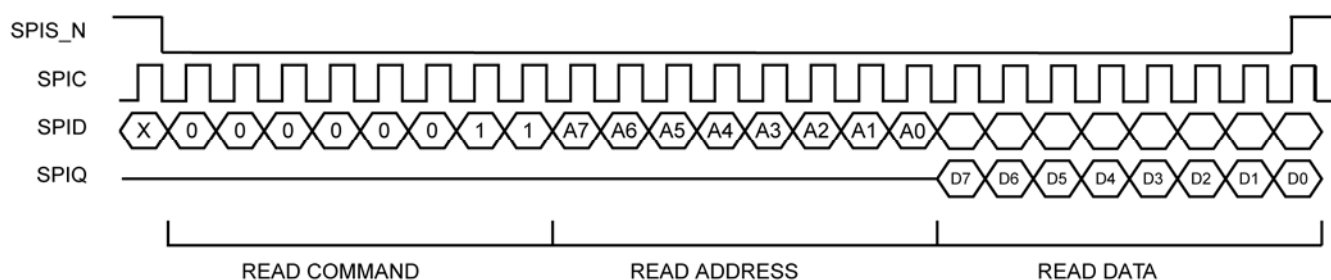
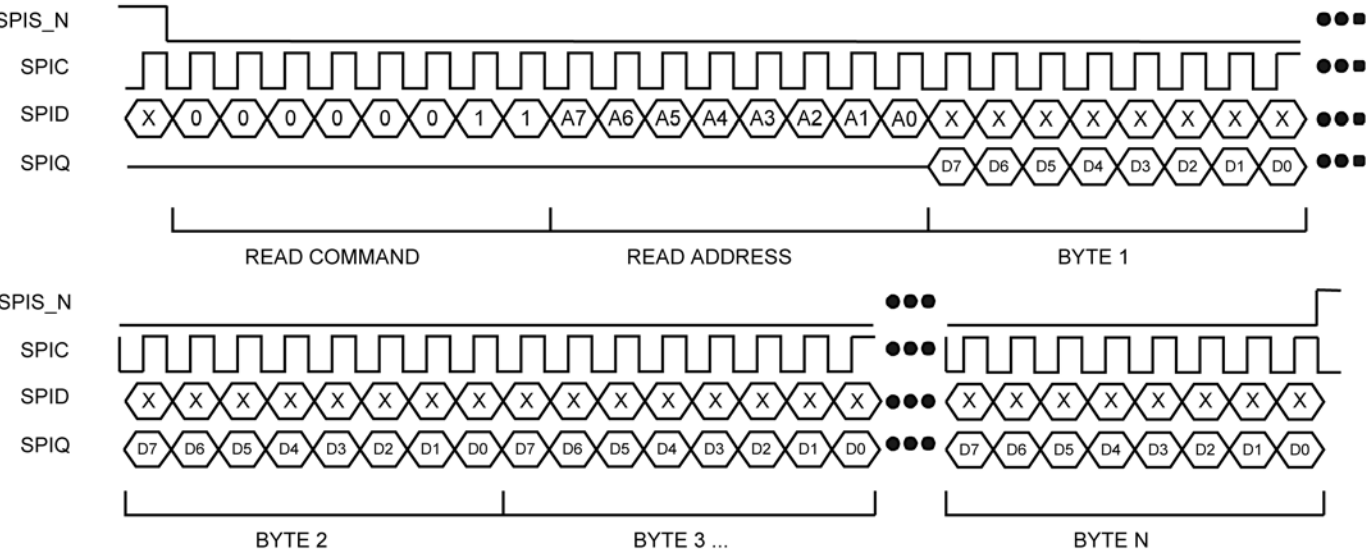

Figure 10. SPI Read Data Cycle
Figure 12. SPI Multiple Read
If a 2-wire EEPROM exists, the KSZ8895MLU can perform more advanced features like broadcast storm protection and rate control. The EEPROM should have the entire valid configuration data from Register 0 to Register 255 defined in the “Memory Map,” except the status registers. After reset, the KSZ8895MLU will start to read all 255 registers sequentially from the EEPROM. The configuration access time (t_{prgm}) is less than 30ms as shown in Figure 12.
5. Registers can be read and configuration can be verified with a typical SPI read data cycle as shown in Figure 10 or a multiple read as shown in Figure 12. Note that read data is registered out of SPIQ on the falling edge of SPIC.